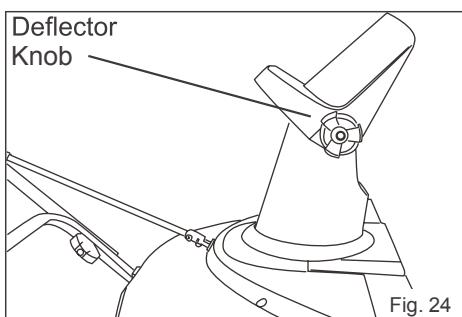

Fig. 24
- The chute deflector on the top of the discharge chute controls the height of the snow stream. Loosen the knob to raise or lower desired height of snow you wish to throw. Tighten the knob to secure the detector (Fig. 24).
WARNING: Make sure that the chute deflector snaps and locks completely onto the discharge chute. An opening between the discharge chute and the chute deflector may allow foreign objects to be picked up by the snowblower and thrown in the direction of the operator causing serious boldy injury. Do not advance the chute deflector too far forward causing an opening to appear between the deflector and discharge chute. Do not over tighten the knobs on the chute deflector (Fig. 24).